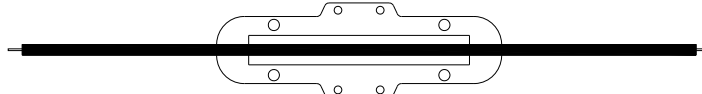

Figure 3
- C. Place the new seat, with reinforcing seat wire, on the top of the valve body, centering it on the valve per figure 3.